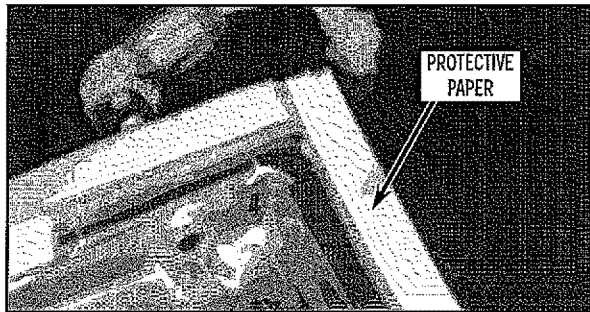

FIGURE 4
8. Remove only the protective paper strips from the rope seal (Butyl) on the evaporator drain tray assembly provided in the kit. See *Figure 4*.